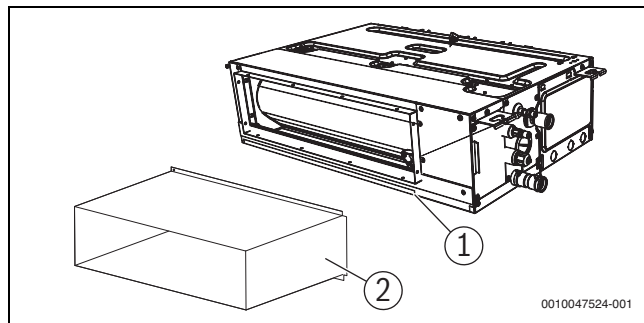

Fig. 10
- If the air outlet panel is far away from the unit and needs to be connected to the air outlet flange of the unit through a metal air duct, sponge shall be pasted on the contact surface of sheet metal for sealing and thermal insulation.(→ figure 10).